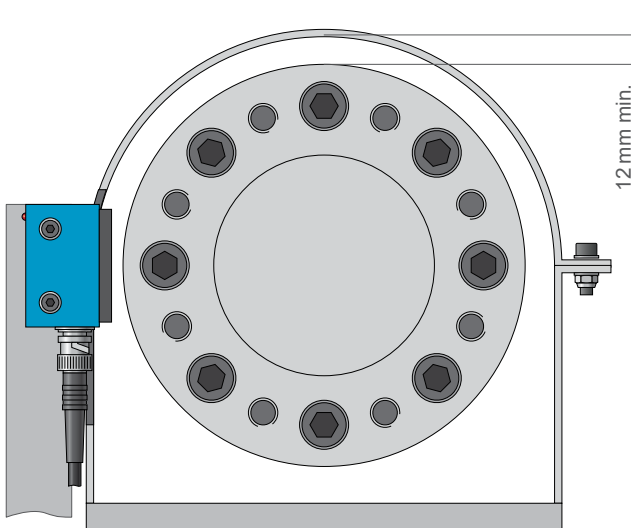

Fig.2-22 Spacing Between Flange and Guard
- Keep protective elements at a sufficient distance away from rotating parts. A minimum space of 12 mm should be maintained between rotating parts and protective elements (*see Fig.2-22*).